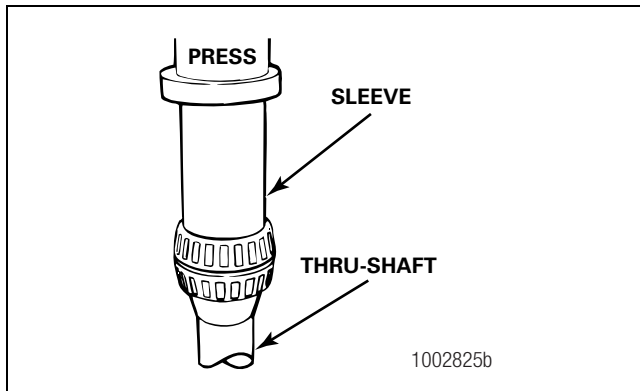

Figure 5.4
2. If the output shaft bearings were removed, you must replace them with new cones and cups. Install the new bearings onto the output shaft, then use a press and sleeve to push on the bearing's inner race until fully seated. For tridem forward output shafts, press the inner cone onto the output shaft then install the spacer before you press the outer cone onto the shaft. Figure 5.4.